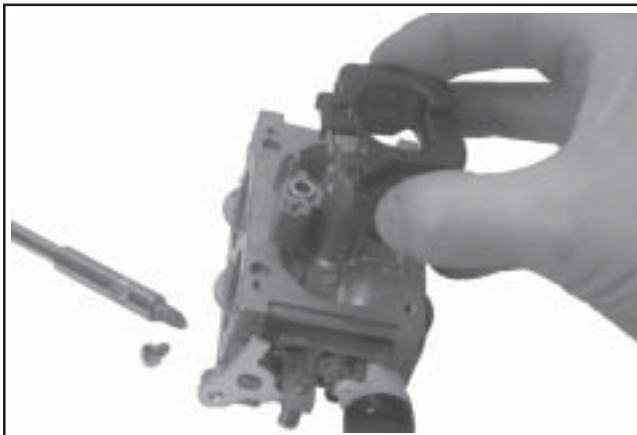

Figure 5-44. Removing Float and Inlet Needle.
3. Remove the float pin screw and lift out the old float, pin and inlet needle. See Figure 5-44. Discard all of the parts. The seat for the inlet needle is not serviceable, and should not be removed.